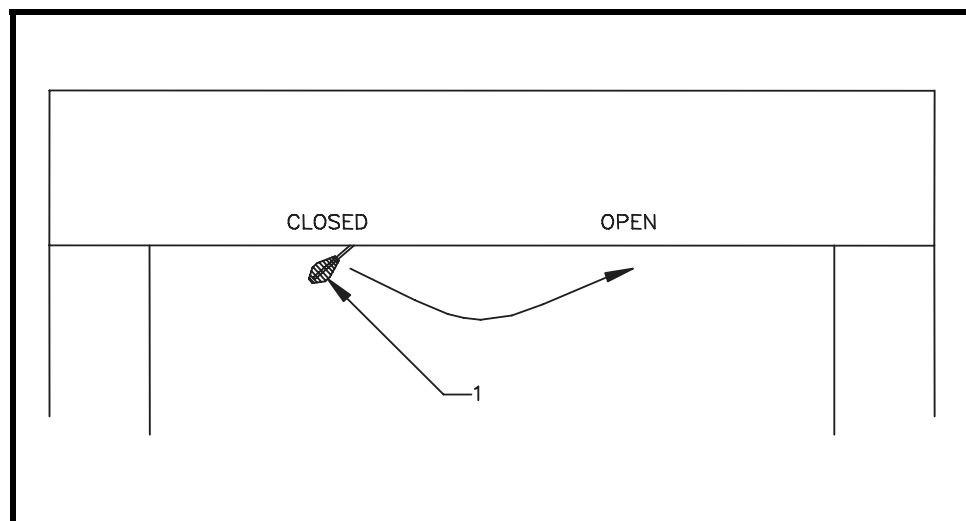

Figure 22: Damper Operation
1. When damper arm (1) is all the way to the left and **locked** into position, the damper system is closed. (Refer to Figure 22.)
2. Pull damper arm (1) forward and unlock from closed position by swinging damper arm (1) to the right. (Refer to Figure 22.)
3. Swing damper arm (1) to the right, forcing into the **locked** position, to open damper system. (Refer to Figure 22.)